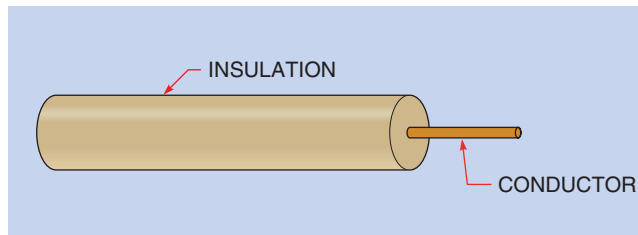

FIGURE 9-9 Insulation around conductor.
Another factor that determines the amount of current a conductor is permitted to carry is the type of insulation used. This is because some types of insulation can withstand more heat than others. The **insulation** is the nonconductive covering around the wire, as shown in **Figure 9-9**. The voltage rating of the conductor is also determined by the type of insulation. The amount of voltage a particular type of insulation can withstand without breaking down is determined by the type of material it is made of and its thickness. Table 310.104(A) lists different types of insulation and certain specifications about each one. The table is divided into seven columns. The first column lists the trade name of the insulation; the second, its identification code letter; the third, its **maximum operating**